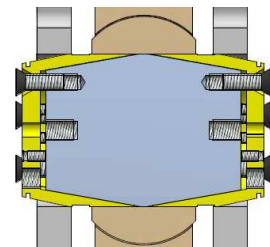

Fig. 3
- 2.3 Line it up in the joint axial so that the bolt's inner cone is equal outside of the support on both side (see Fig. 3).
- 2.3 Dismount the inner cone (27). Dismount it with tighten the pin screw 26c. See Fig 3. If the outer cone is tight, use Bondura "dismounting tools" to remove it.